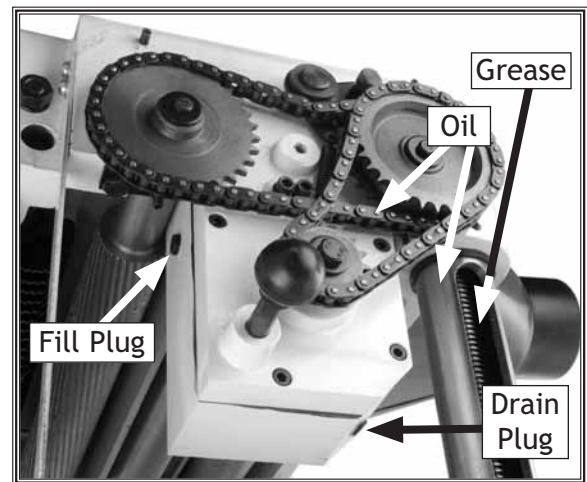

Figure 22. Gear box lubrication.
- **Gear Box:** Drain the gear box after the first 20 hours of operation. **Figure 22** shows the gear box drain and fill plugs. Refill with 80-90W gear oil. The oil level should reach the top of the filler plug port. After the initial change, inspect fluid levels periodically and change yearly. *If your planer receives heavy use, change the gear oil more frequently.*